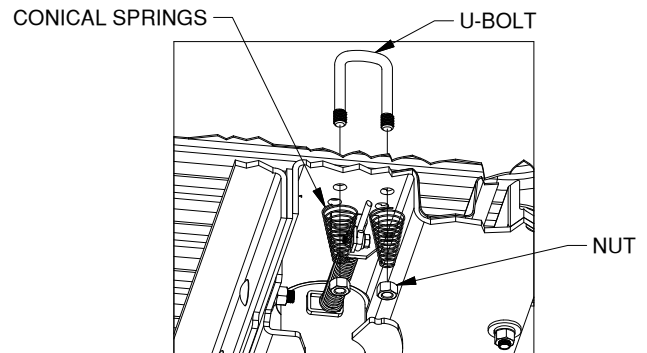

Figure E3: Cut away view of bed and center section.
3. **Add springs.** Place a conical spring over each leg of the U-bolts and secure with a 1/2" lock nut, see Figure E3. Tighten the lock nut until the nut is flush with the end of the U-bolt.